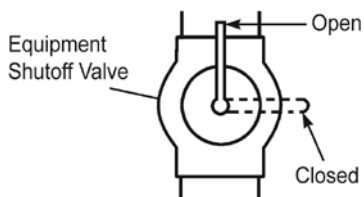

Fig. 21 - Equipment Shut-off Valve
1. Open equipment shutoff valve (See Fig. 21).